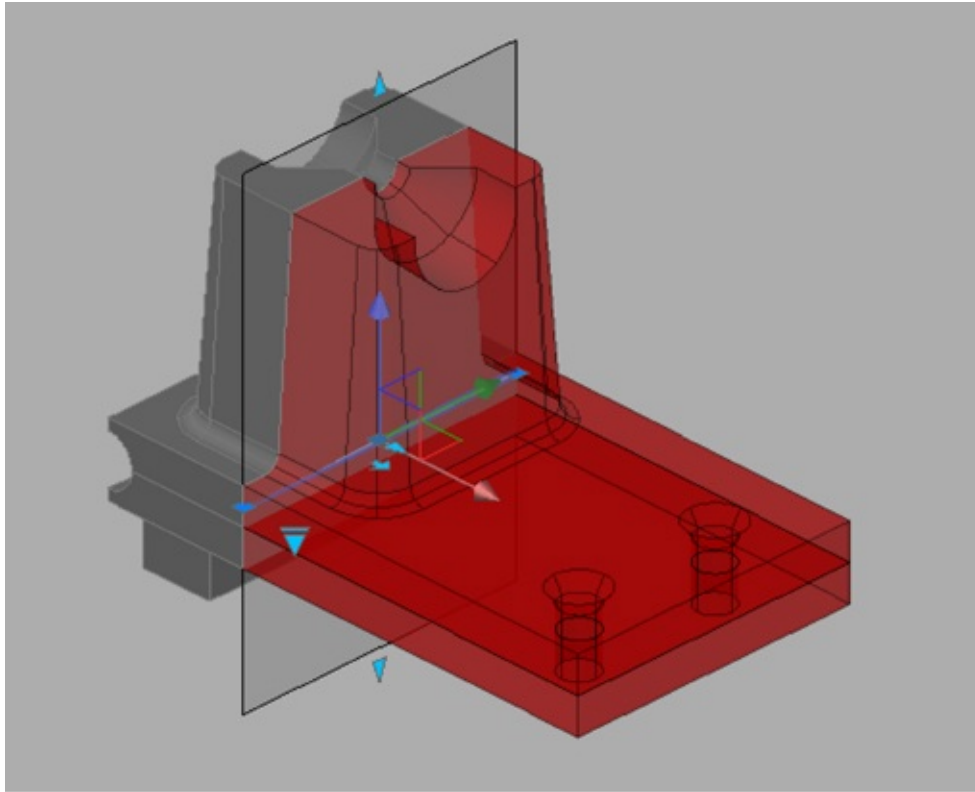

FIGURE 22.50 The front portion of the bracket is displayed with the Show Cut-Away Geometry option turned on.
1. With the section plane selected (you should still see its Move gizmo), right-click and choose Show Cut-Away Geometry. The front portion of the bracket appears (see Figure 22.50).